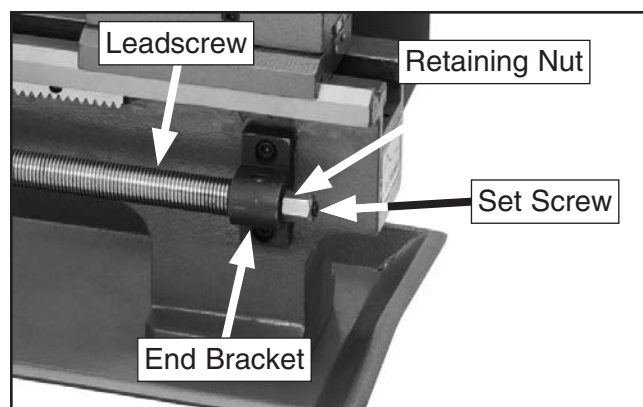

Figure 81. Leadscrew end-play adjustments.
2. Loosen set screw shown in **Figure 81** several turns.